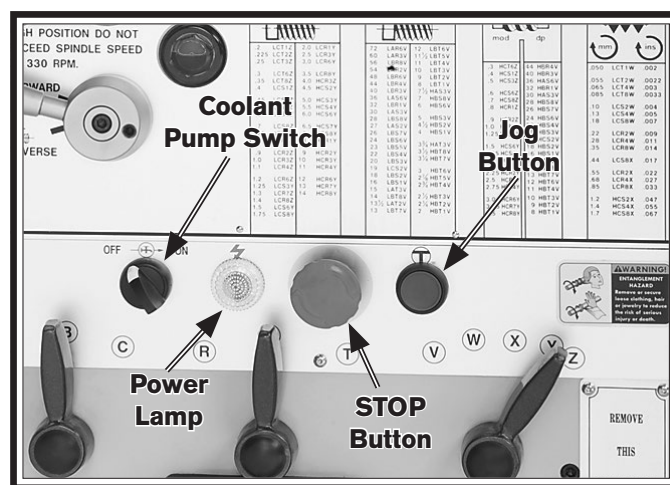

Figure 29. Control panel.
6. Turn the coolant switch (see **Figure 29**) to the OFF position, and point the fluid nozzle into the chip drawer.
11. Press the STOP button on the control panel (see **Figure 29** on **Page 28**) to ensure that the lathe does not unexpectedly start when connected to power during the next step.
13. To reset the STOP button and enable power to the lathe electrical controls, twist the STOP button clockwise until it pops out. The power light on the control panel should illuminate (see **Figure 29** on **Page 28**).